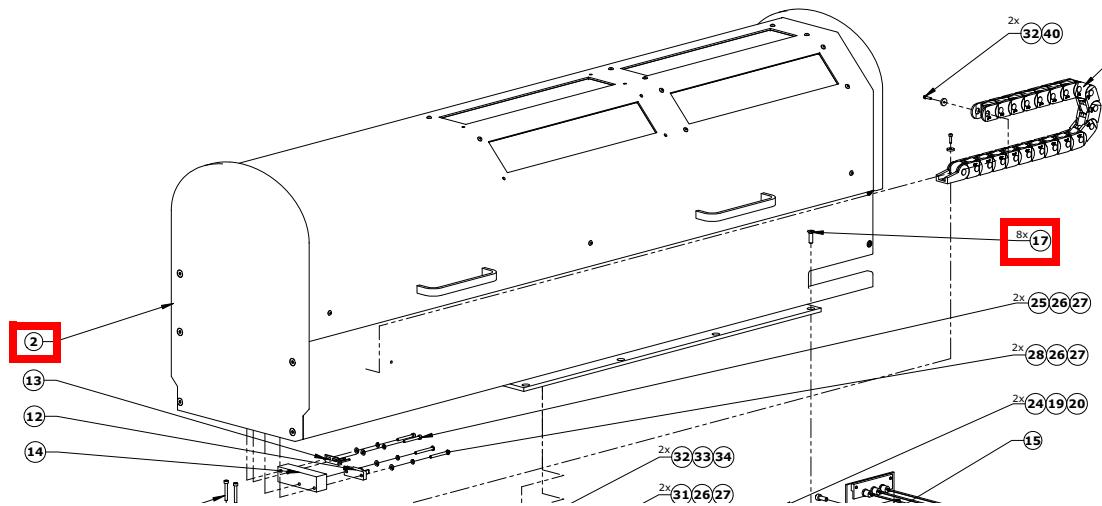

Figure 5-17
See Figure 5-17.
1. Remove four (4) M6 cap screws (2109884-14, Item 17 Figure 5-17) holding down each side of the Table Shielding Assembly (5241211, Item 2 Figure 5-17). Set hardware aside. Lift Table Shielding Assembly away (minimum three persons) and carefully set with Shielding Lid upside down. Block up the Left Side Panel (photo) so that it is parallel to the work surface. This orientation will relieve tension in the Torsion Springs.